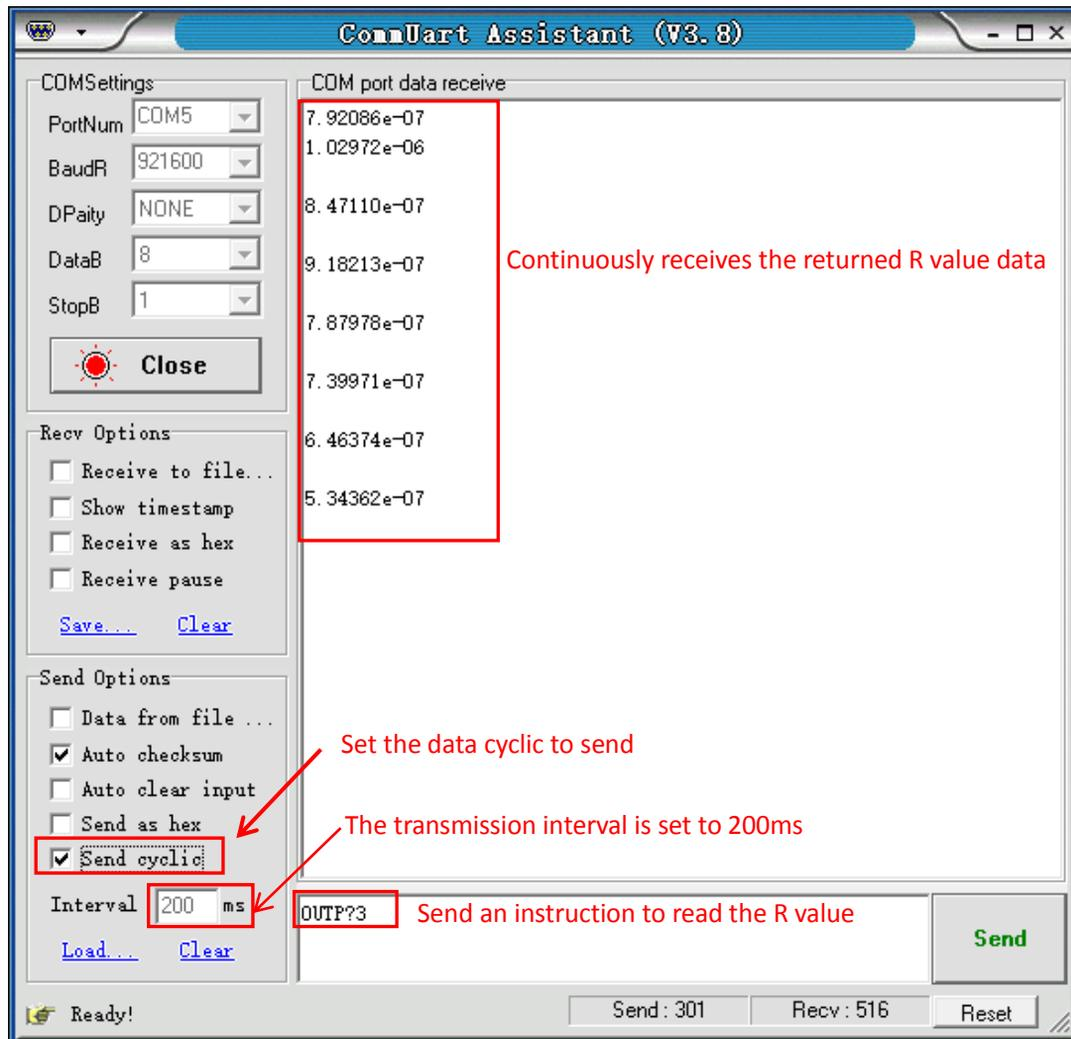

Fig.79 Read the single R value continuously
4) If you want to read <X>, <Y>, <R>, < θ > and Freq continuously, you can set the transfer pause time as Fig.79.